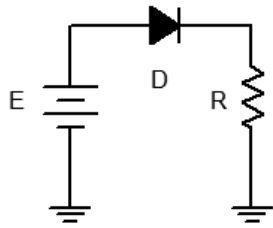
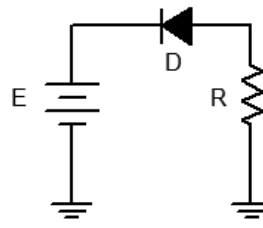

Figure 1
Figure 2
1. Consider the circuit of Figure 1 using $R = 1 \text{ k}\Omega$. For any positive value of E , the diode should be forward biased. Once E exceeds the knee voltage, all of E (minus approximately 0.7 volts) drops across R . Thus, as E increases, so does the diode current.
2. Build the circuit of Figure 1 using $R = 1 \text{ k}\Omega$. Set E to 0 volts and measure both the diode's voltage and current and record the results in Table 1. Remember, voltage is measured across a device (parallel) while current is measured through it (series). Repeat this process for the remaining source voltages listed.
4. Consider the circuit of Figure 2 using $R = 1 \text{ k}\Omega$. For any positive value of E , the diode should be reversed biased. In this case, the diode should always behave like an open switch and thus no current should flow. If no current flows, the voltage across R should be zero, and thus the diode voltage should be equal to the applied source voltage. Note that the diode's voltage polarity is negative with respect to that of Figure 1.
5. Build the circuit of Figure 2 using $R = 1 \text{ k}\Omega$. Set E to 0 volts and measure both the diode's voltage and current and record the results in Table 2. Repeat this process for the remaining source voltages listed.